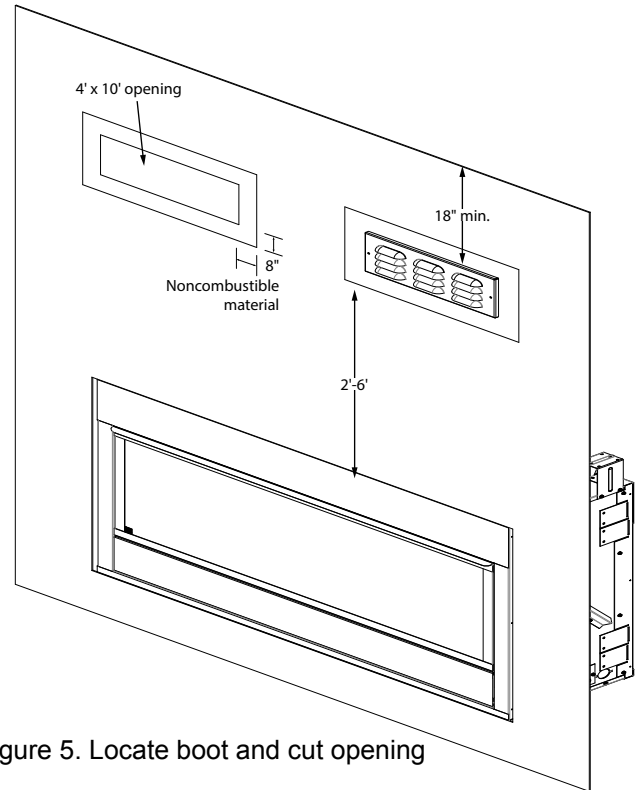

Figure 5. Locate boot and cut opening
- To locate the boot position in an exterior wall, start by selecting the desired height of the vents inside a range of 2' minimum to 6' maximum, keeping in mind the top of the grills must have an 18" clearance to soffit. (Figure 5). Use the bottom lip of the 4"x10" opening of the boot and top surface of the unit to determine height.
- Finish 8" minimum around the opening of the vent on the exterior wall with a noncombustible material (not included) before attaching the exterior grills with the louvers facing down (Figure 5)